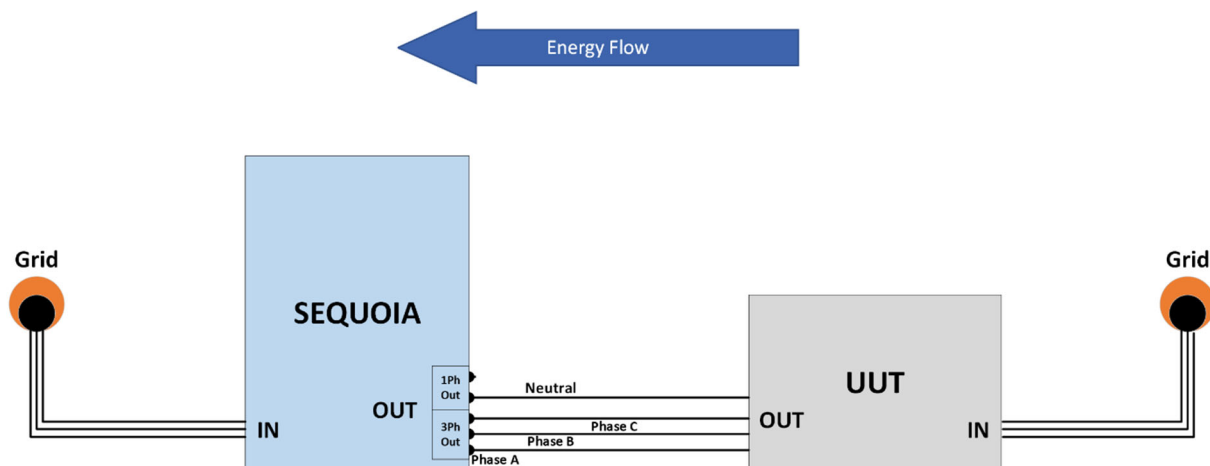

Figure 4-3. eLoad Mode
Energy flow is from UUT to facility AC input through SEQUOIA as shown in Figure 4-3. In Electronic load mode, SEQUOIA regulates the RMS current set by the user and works as the load for UUT.
In the three-phase mode of operation, Sequoia requires a STAR-connected source as UUT. Neutral from the output of UUT must be connected to the output neutral of the Sequoia. Refer to the Figure 4-3.
1. Electrical Connection: Connect the UUT output to the SEQUOIA output as shown in Figure 4-3.